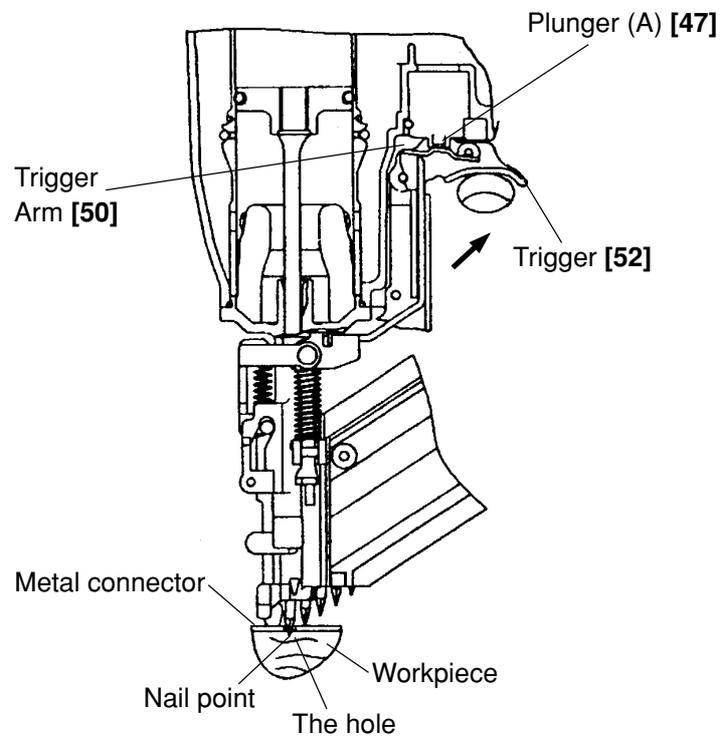

Fig. 8
(b) After inserting the nail point into the hole in the metal connector, pull the Trigger [52] to make the tip of Pushing Lever (A) [30] contact with the surface of the metal connector. Then the Trigger Arm [50] pushes up Plunger (A) [47] and the nailer is started to drive nails (Fig. 8).